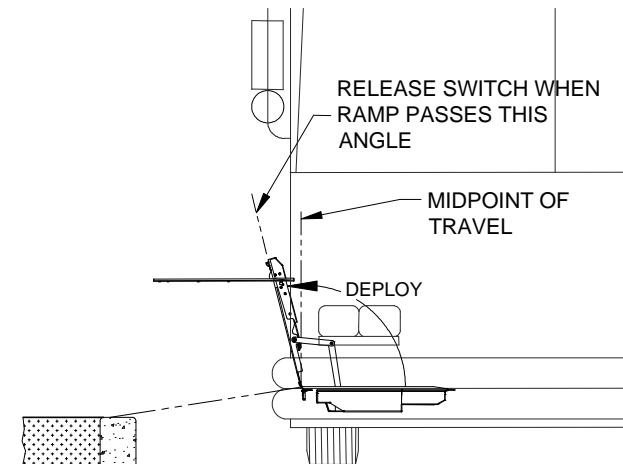

FIGURE 3-2: RAMP MIDPOINT DURING DEPLOY
- 2) Refer to **Figure 3-2**. Move ramp control switch to DEPLOY position. Hold switch in DEPLOY until ramp has **passed** its travel midpoint (vertical), then release switch.